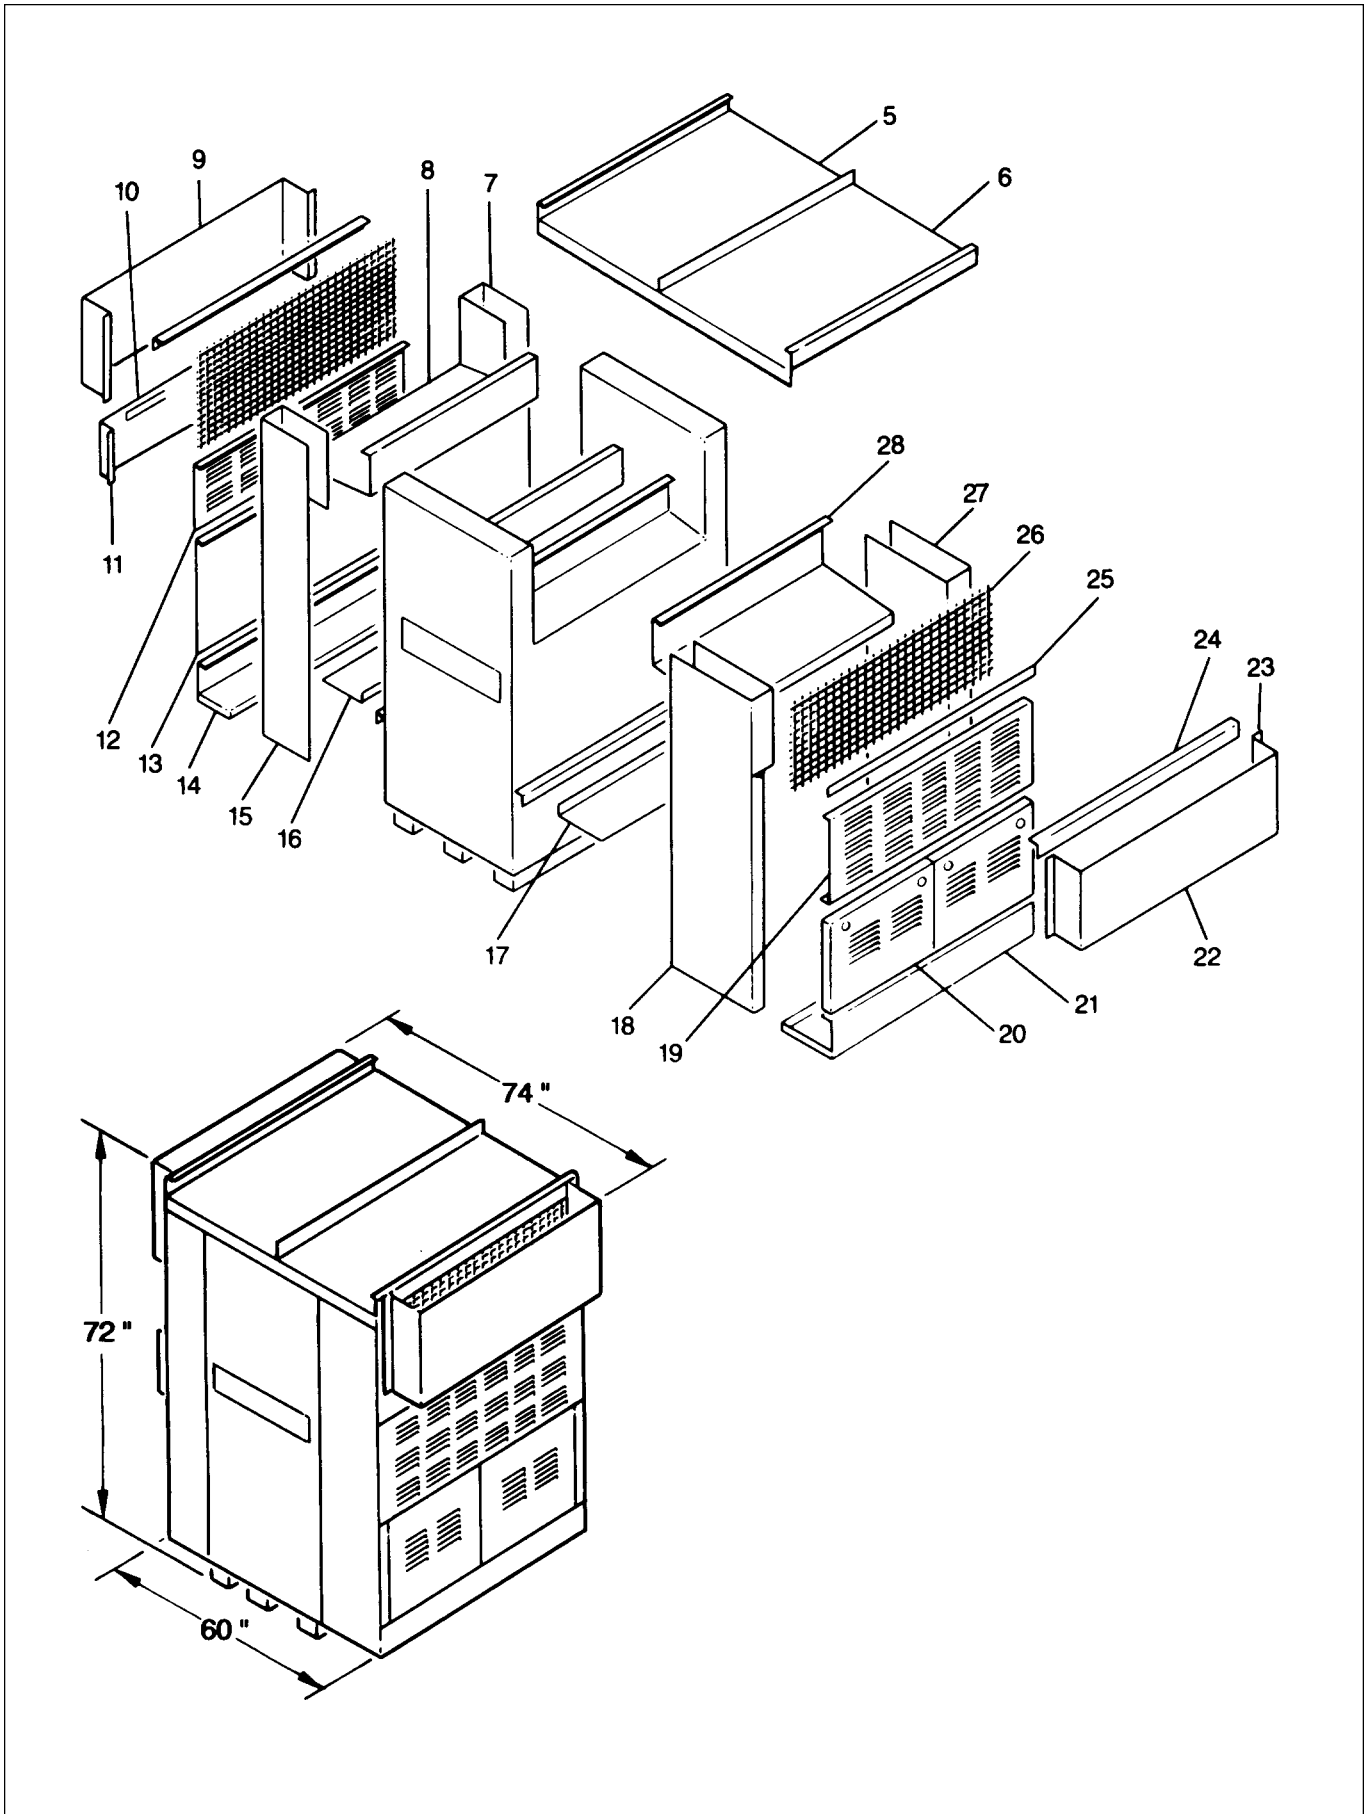

Figure 17. Outdoor Parts Identification.
Figure 17 shows the conversion completed.
#### 6.1.2 SECTION II: (See Figure 17)
**OUTDOOR KIT PARTS LIST (see Figure 17)**